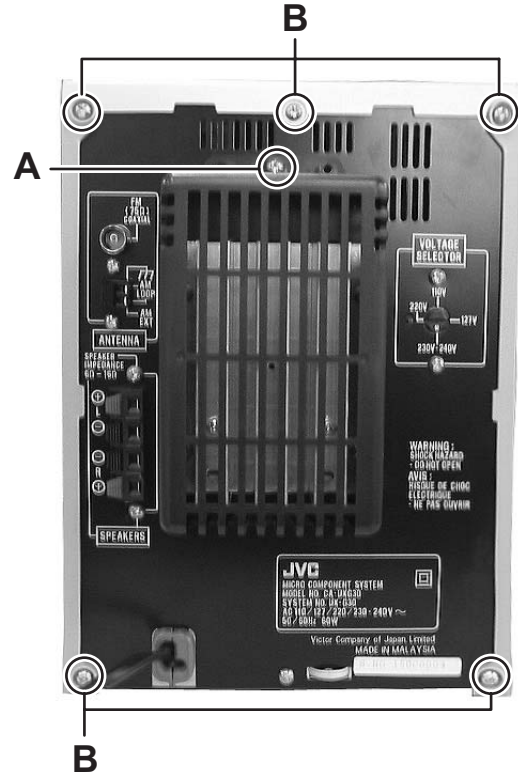

Fig.1
(See Fig.1 to 3)
- (1) Remove the one screw **A** attaching the rear cover. (See Fig.1)
- (2) Remove the five screws **B** attaching the side panel and top cover. (See Fig.1)
(See Fig.1)